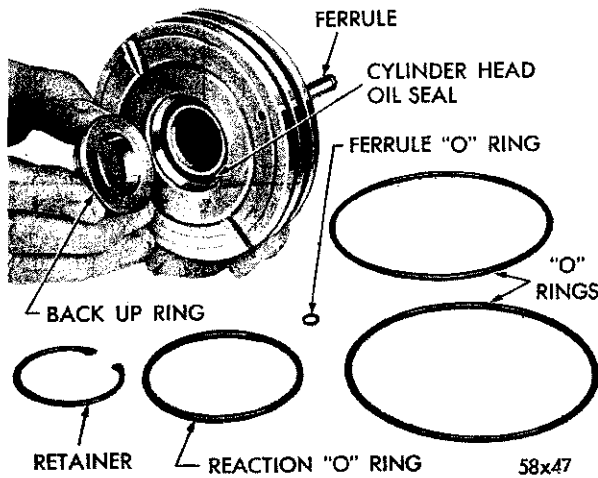

Fig. 21—Removing the Cylinder Head Seal
(3) Inspect the worm shaft seal in the cylinder head counterbore for possible damage; replace the cylinder head seal if necessary (Fig. 21).